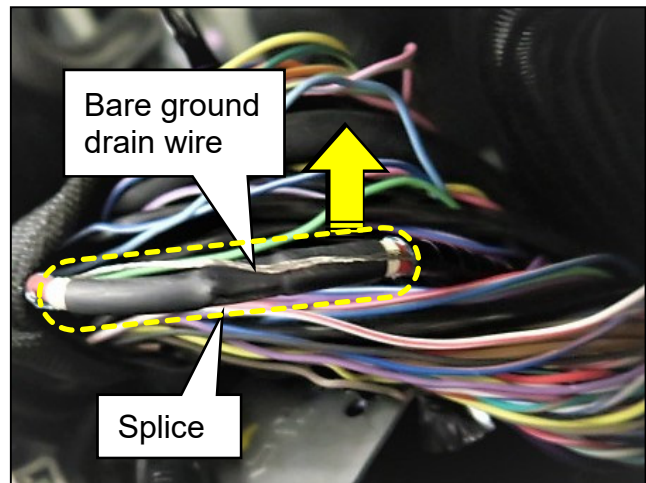

Figure 22
19. Separate the bare ground drain wire from the splice (Figure 22).